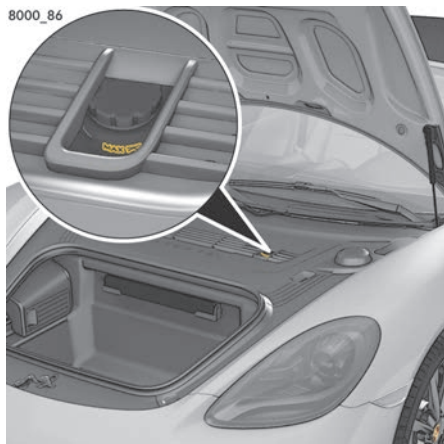

Fig. 38: Brake fluid reservoir
- ▶ Read off the brake fluid level on the brake fluid reservoir (Fig. 38). The fluid level must always be between the MIN and MAX markings.